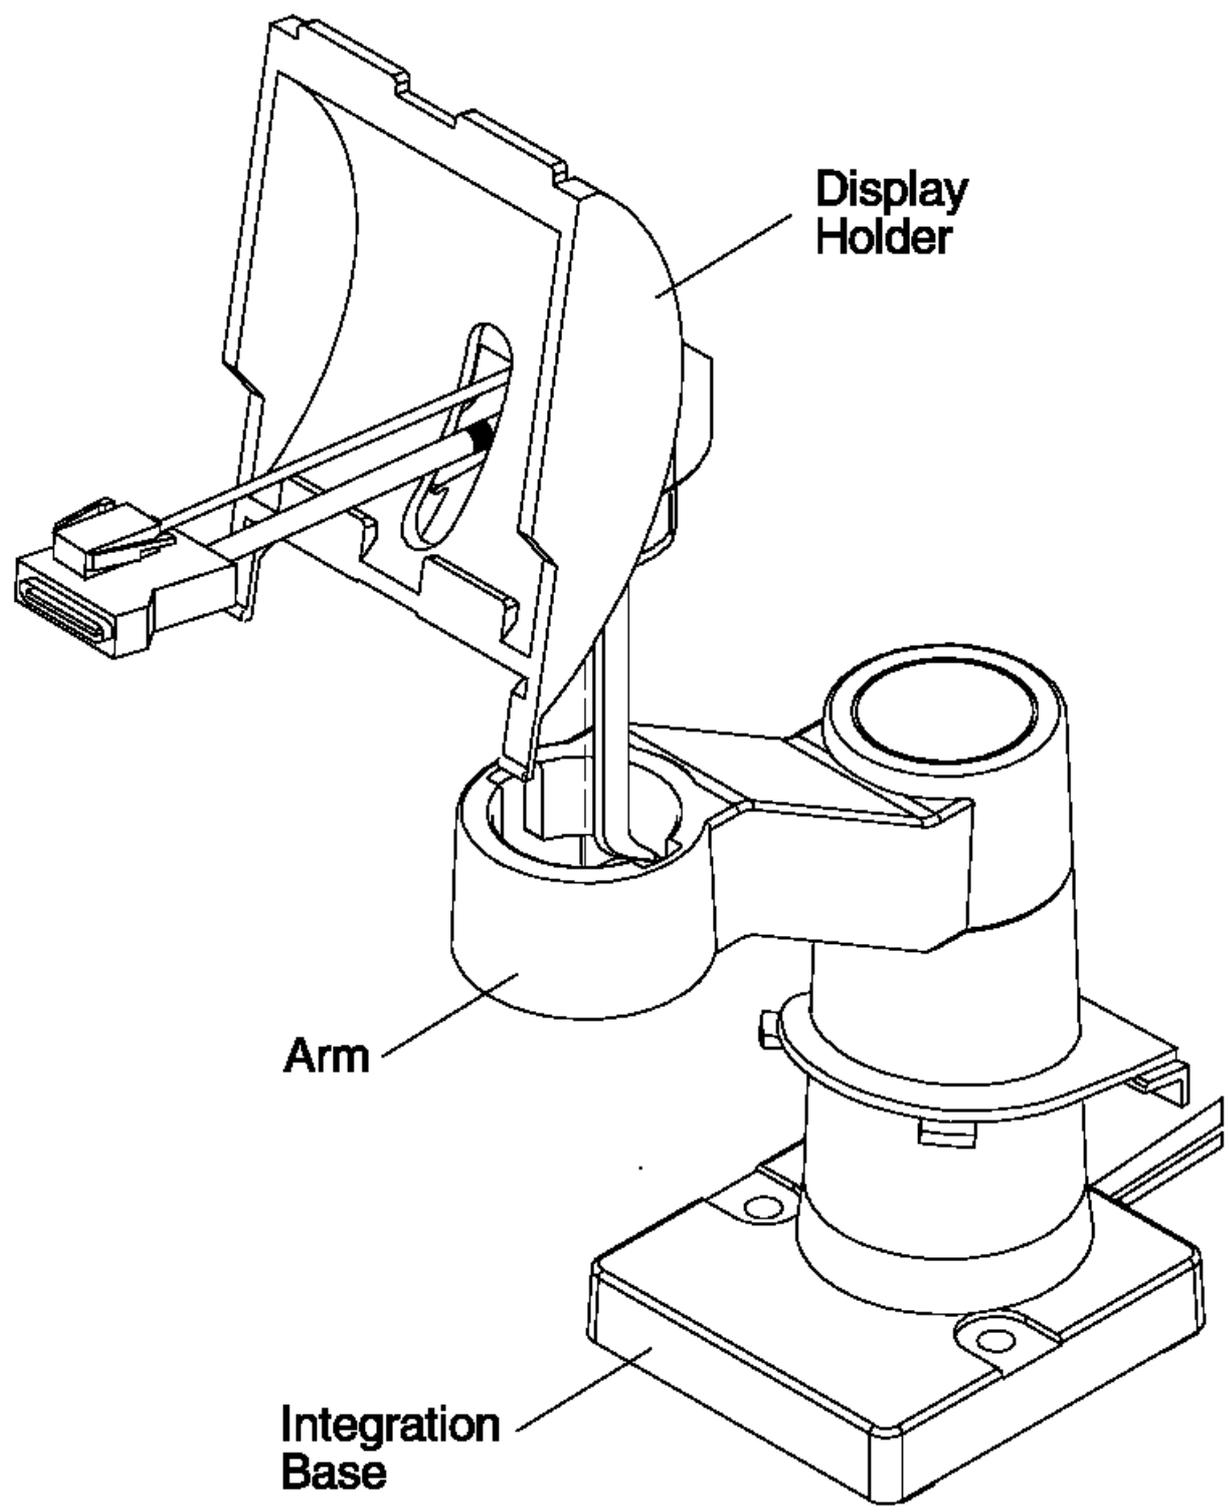

Figure 3-27. Integration Kit and Display Holder
1. Separate the display holder from the arm. See Figure 3-27.
5. Tilt the display holder to the up position and route both cables through the opening at the center of the display holder. Make sure that the cables exit the display holder as shown in Figure 3-27.